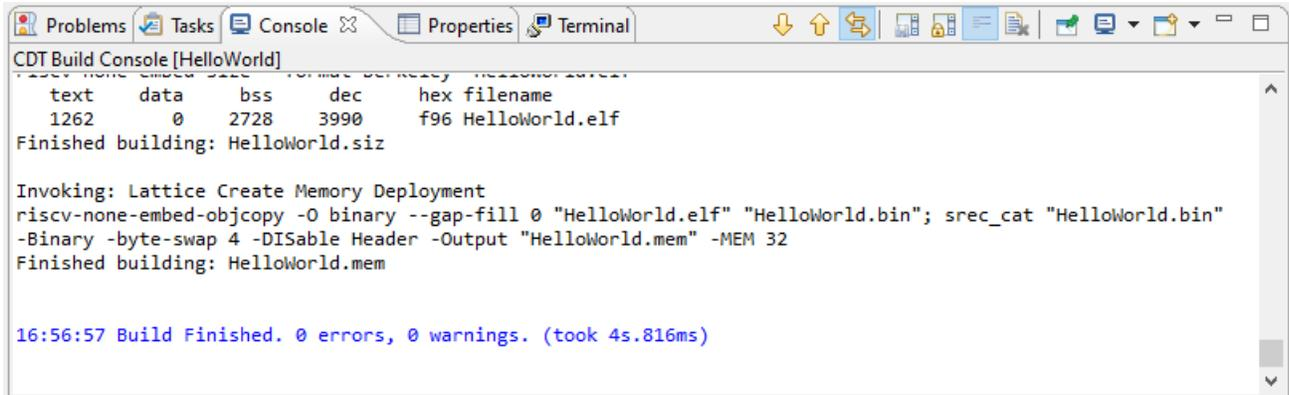

Figure 4.11. Build Result of HelloWorld C Project
8. Check the build result from the Console view (Figure 4.11).